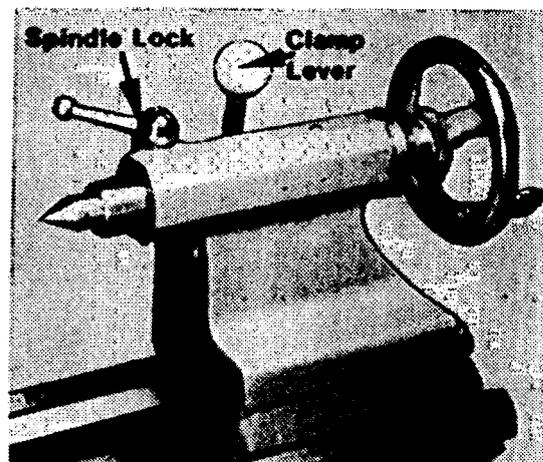

Fig. 15. Tailstock
- 9. LEADSCREW AND HALF NUTS. Oil every hour, when in use. (Fig. 15).